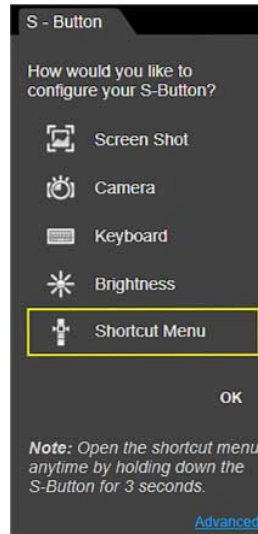

Figure 3-2 *Shortcut (S) button configuration menu*
1. Press and release the **Shortcut (S)** button.
3. Choose the function you would like the Shortcut button to perform when pressed (Figure 3-2).